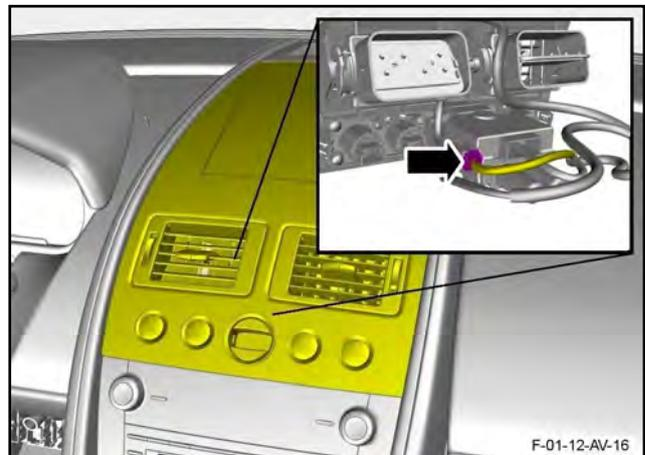

Figure 14
21. Disconnect the electrical connector from the ignition switch module (refer to Figure 14).